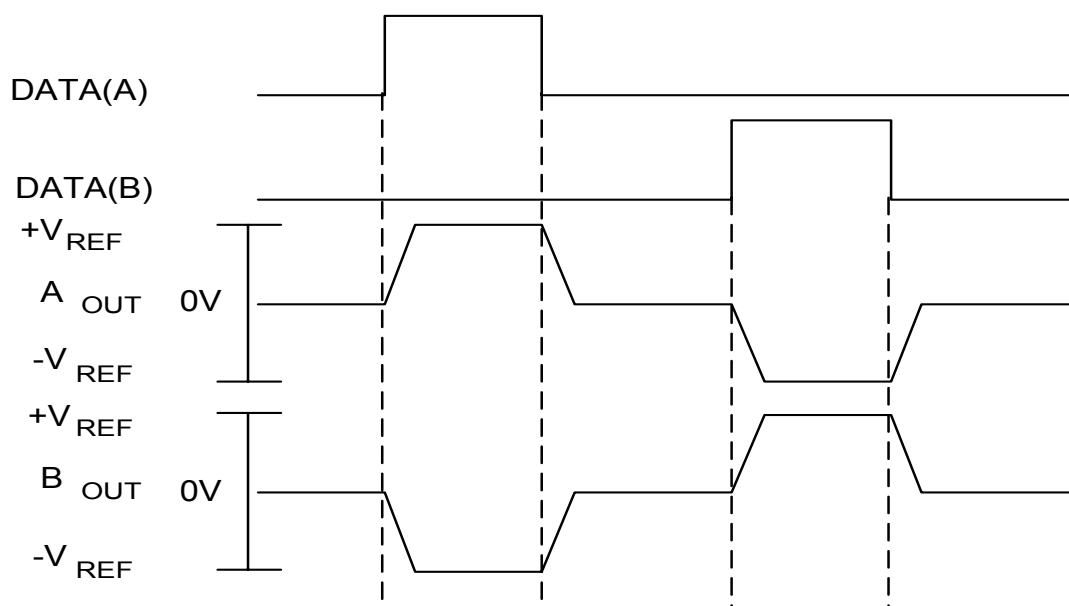

Figure 4: ARINC 429 Waveforms
DATA(A) DATA(B)	Logic inputs. These signals contain the Serial Data to be transmitted on the ARINC 429 data bus. Refer to Figures 4 and 5.
Figures 4 and 5 show the output waveforms for the ARINC 429 and RS-422 modes of operation.